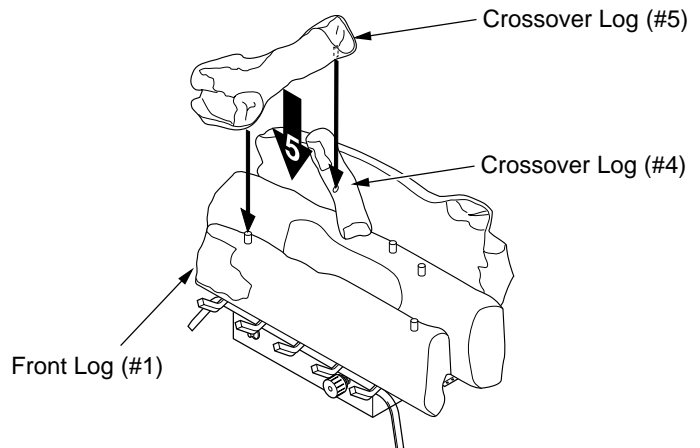

Figure 28 - Installing Crossover Log #5 (CCL3930PTB/NTB Shown)
5. **For CCL3924PTA/NTA and CCL3930PTB/NTB Only:** Locate pin and hole on the bottom of crossover log (#5). Slide the pin into the hole located in crossover log (#4). Slide the hole onto the pin on front log (#1). See Figure 28.